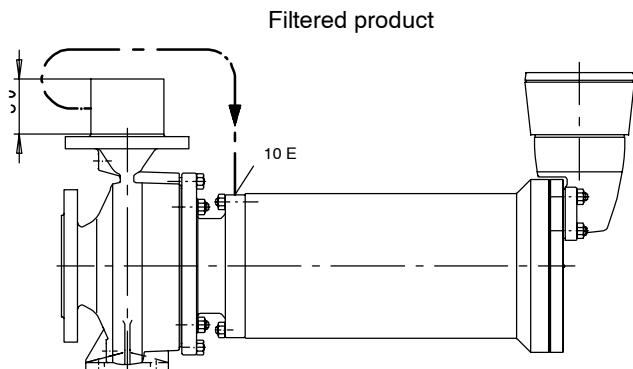
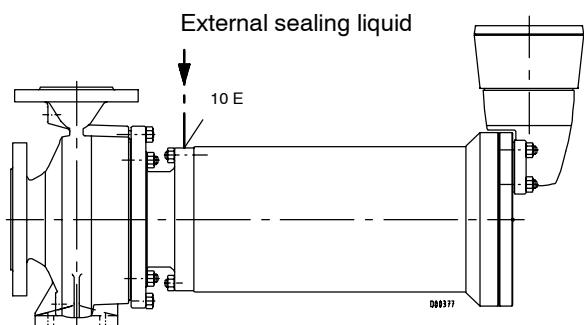

Fig. 2 Sealing with filtered product
Fig. 3 Sealing with external liquid
- Main flow filter (see fig. 2)
For solids-laden products, connection 10 E can be fed with pumped product passed through a self-cleaning main flow filter (fig. 2) or with an external sealing liquid (fig. 3), thus preventing contaminations from entering the rotor chamber. If a KSB filter is used, pump dimension h2 will increase by 60 mm. Any external sealing liquid used must be compatible with the pumped product. **It is advisable to use PTC thermistors i.e. monitoring the temperature in the stator windings, in both cases, in order to prevent motor failures caused by insufficient cooling flow.**